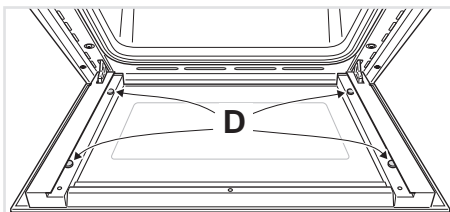

Figure 27a
- Check that the four rubber pads are in place ("D" in Fig. 27a).